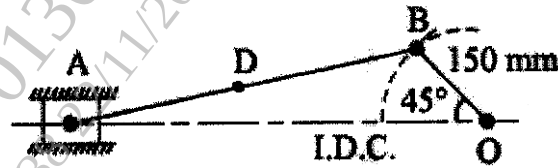

Fig. 2
6. (a) The crank of slider crank mechanism shown in Fig. 2 rotates clockwise at a constant speed of 300 rpm. The crank is 150 mm and connecting rod is 600 mm long. [10]